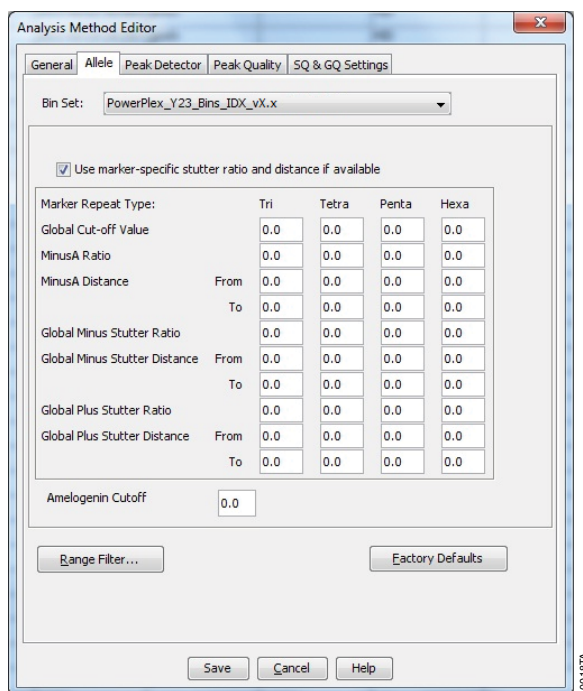

Figure 12. The GeneMapper® ID-X ‘Allele’ tab.
6. Select the 'Allele' tab (Figure 12).
8. Ensure that the “Use marker-specific stutter ratio and distance if available” box is checked. Doing this will assign locus-specific stutter filters and distances from the imported stutter file. We recommend the settings shown in Figure 12 for proper filtering of stutter peaks when using the PowerPlex® Y23 System. You may need to optimize these settings. In-house validation should be performed.